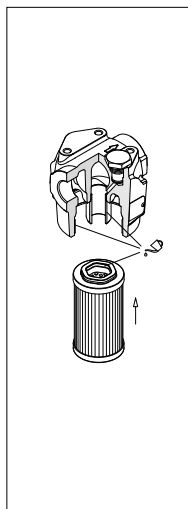

fig. 4
- (Fig. 4) Lubricate with the operating fluid the filter element Hex Ring, the housing tap and cavity, then fit the filter element on the tap. Pay attention not to damage the Hex Ring seal